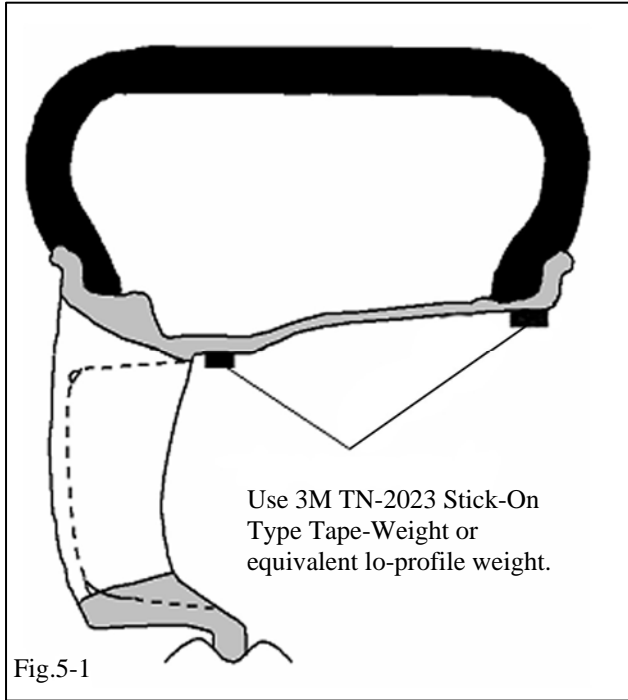

Fig.5-1
- (a) Mount wheel/tire on wheel balance machine and balance in DYNAMIC MODE. Enable the LOAD ROLLER, if applicable, to ensure proper bead seating. Use **3M TN-2023** or equivalent stick-on type tape weights. (Figs. 5-1 & 5-2).